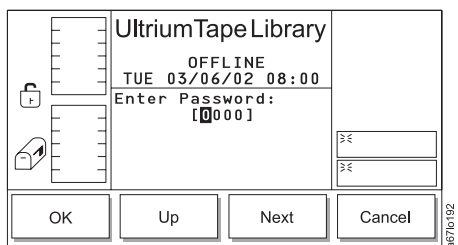

Figure 14-54. Enter Password Dialog
- Press the button below the **Secure** softkey. The Enter Password Dialog displays (see Figure 14-54).